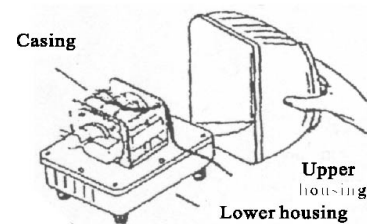

Figure 9b
- II) Insert screw driver between exhaust outlet and upper housing and try open gently. (Figure 9b)